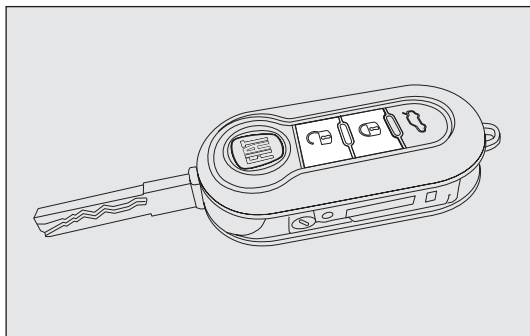
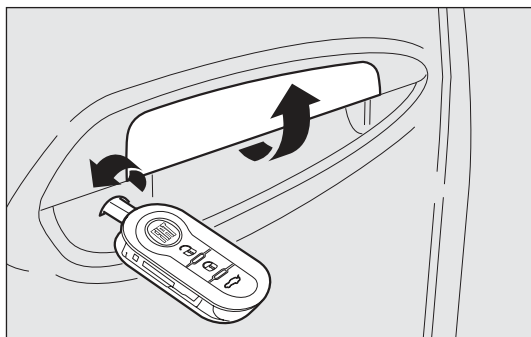
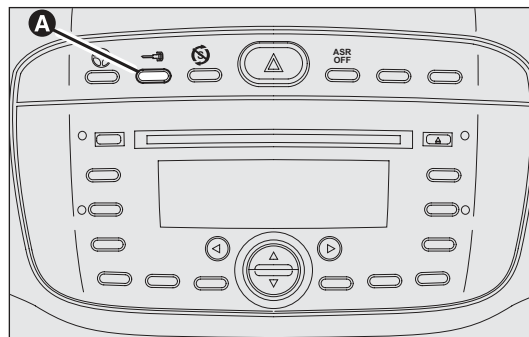

fig. 78
fig. 79
fig. 80
With the doors closed, press button  on the remote control fig. 78 or insert the key in the driver-side door and turn clockwise fig. 79. The locking of the doors is signalled by the LED on button A-fig. 80 flashing once. The doors can be locked only if they are all shut. If one or more doors are open after pressing button  on the remote control fig. 78, the direction indicators and the LED on the button A-fig. 80 flash quickly for approximately 3 seconds.
If one or more doors are open turning the key, only the button LED A-fig. 80 flashes. If the doors are closed but the boot is open, the doors are locked: the direction indicators (only when locking is carried out using button  fig. 78) and the LED on button A-fig. 80 flash quickly for approximately 3 seconds.
With this function on, you can still unlock the other doors by pressing button A-fig. 80 on the central control panel.
Double-tapping button  on the remote control fig. 78 activates the dead lock device (see “Dead lock”).
Briefly press button  fig. 78 to unlock the doors remotely, turn on the ceiling lights for a limited period and double flash the direction indicators, or insert the key into the driver's door lock and turn it anti-clockwise as shown in fig. 79.
Press button A-fig. 80 to lock/unlock all doors. The button has an LED that indicates whether the doors are locked or unlocked. When the doors are locked, the LED is on and pressing the button brings about central unlocking of all the doors and turns off the LED. When the doors are unlocked, the LED is off and pressing the button brings about central locking of all the doors. The doors will be locked only if all the doors are properly shut.
it will not be possible to unlock them by pressing button A-fig. 80 on the dashboard.
- ☐ locking/unlocking button A-fig. 80;
The dead lock device is automatically activated on every door when you double-tap button **B** on the remote control fig. 78.
Device activation is indicated by 3 flashes of the direction indicators and the flashing of the LED on button A-fig. 80 on the dashboard.